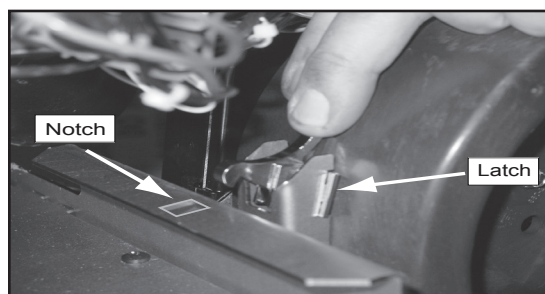

Figure 29.2
5. Reach behind the blower and release the latch by pushing the top of the latch towards the blower. **Figure 29.2.**